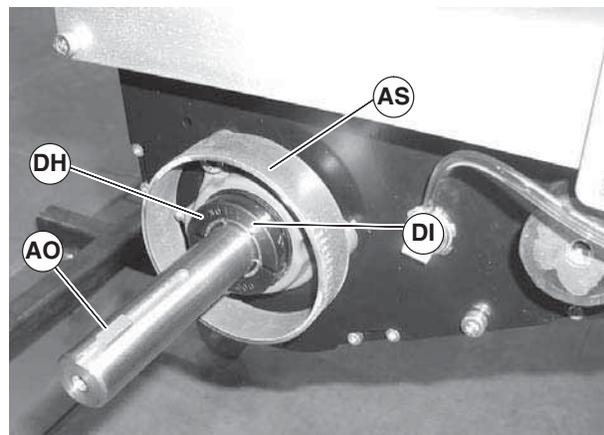

Figure 105
3. Remove spacer ring (Figure 105, item AS) and key (AO). Loosen clamp screw (DH) and remove bearing collar (DI).
7. Reinstall bearing collar (Figure 105, item DI). Tighten clamp screw (DH) to 95 in-lbs (11 N-m).
8. Reinstall key (Figure 105, item AO).